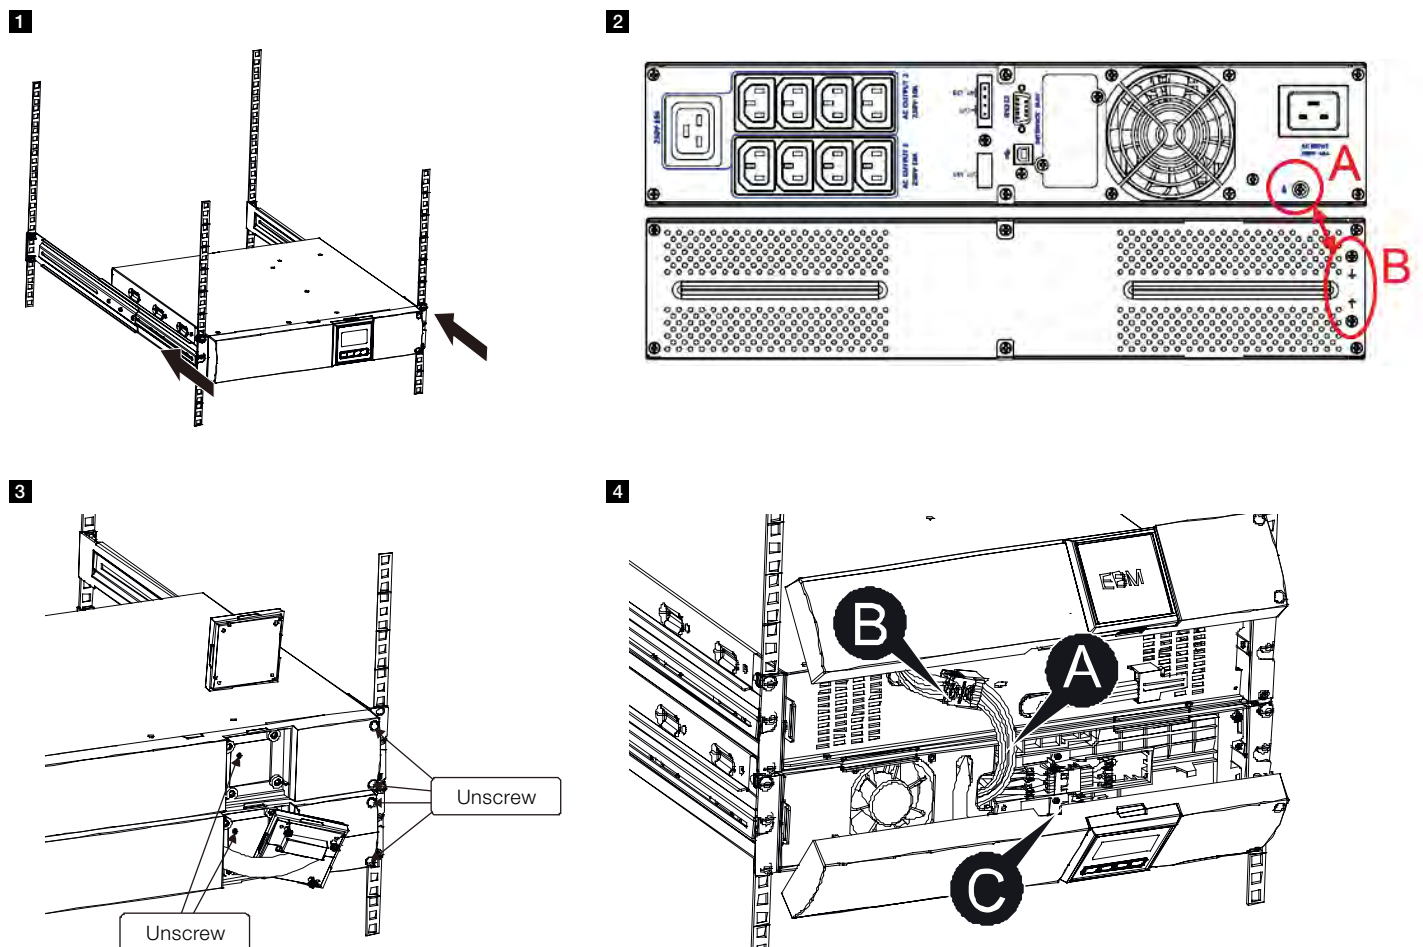

Figure 3: Installing the external battery enclosure
3. Remove the display box and remove the screws positioned in the front panel (in the back of the LCD box and on the right side of the panel). Remove the front panel and connect the battery terminal (A) from the UPS to the battery module terminal (B) as shown in figure 3. Remove the small cable entrance gate (C) on the side of the front panel to allow the outlet wire of the external battery enclosure to pass through the gate.